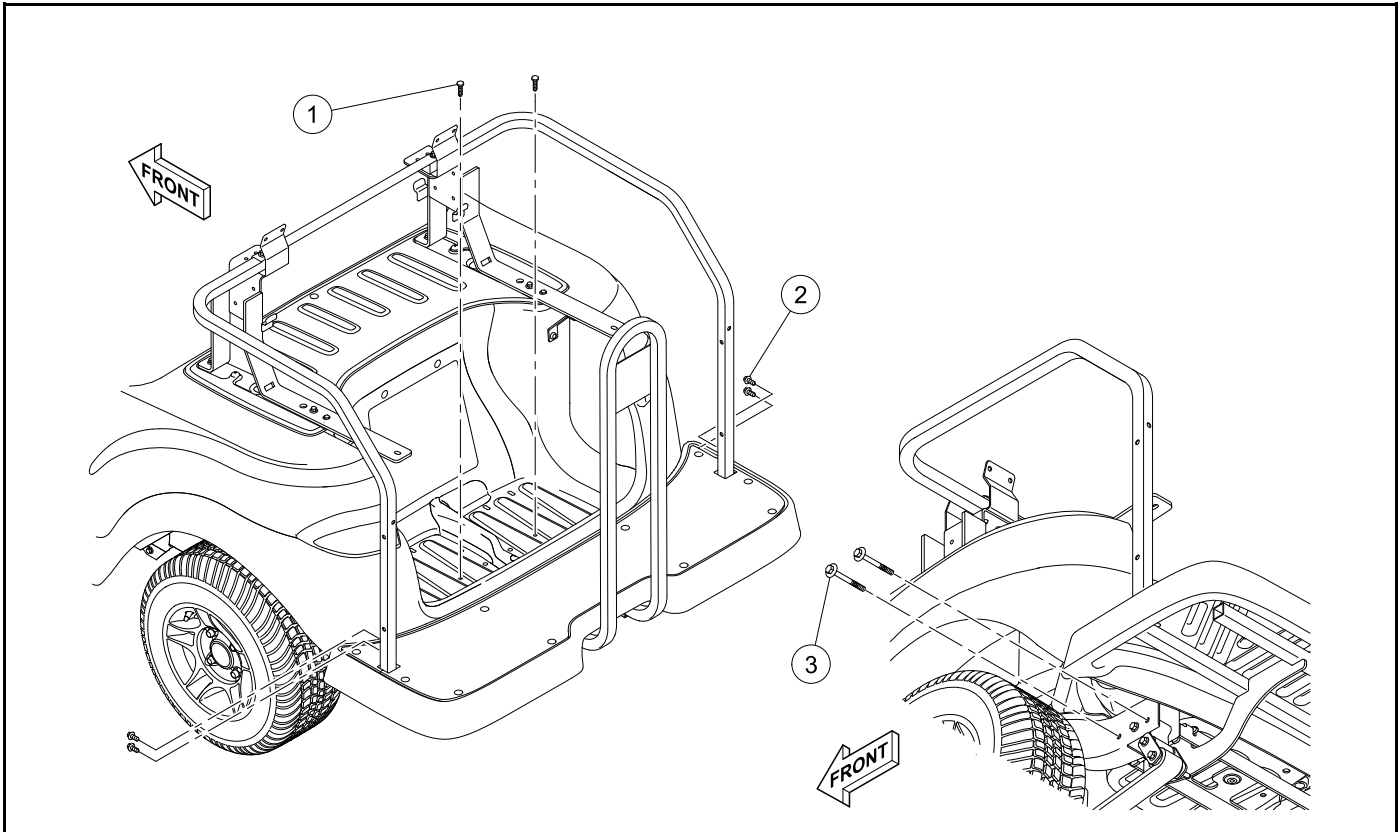

Figure 4-52
2. Remove the screws (1) (**Figure 4-52**).
3. Remove the screws (2).
4. Remove the bolts (3) and the foot deck.